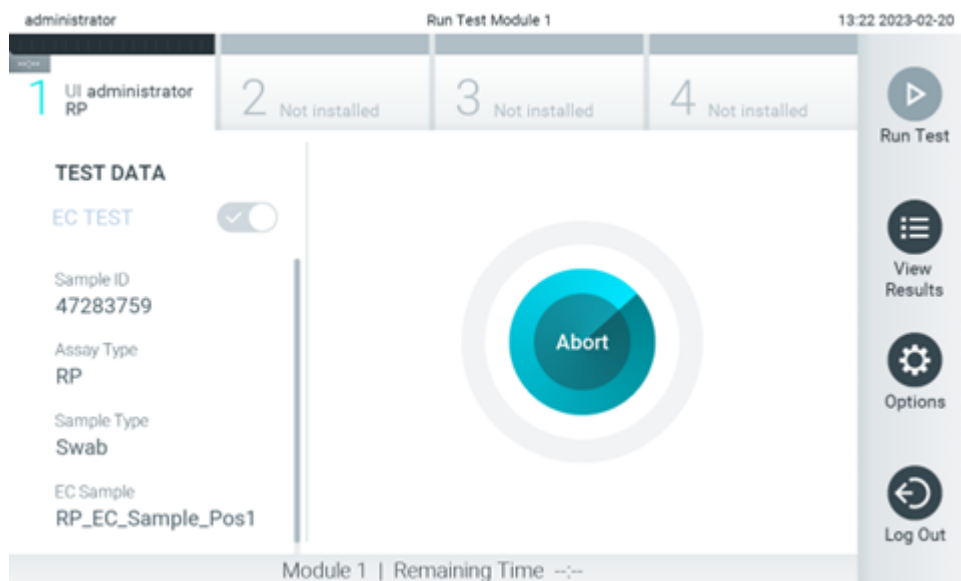

Figure 98. Test execution and remaining run time display.
10. Upon detecting the QIAstat-Dx assay cartridge, QIAstat-Dx Analyzer 2.0 is enabled to automatically close the lid of the cartridge entrance port and start the test run. No further action from the operator is required. While the test is running, the remaining run time is displayed on the touchscreen (Figure 98).